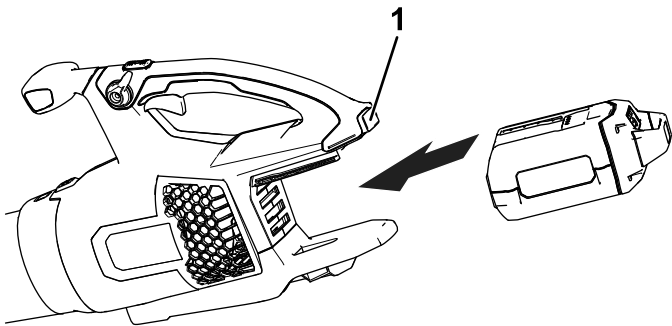

Figure 3
2. Align the cavity on the battery pack with the tongue in the handle housing (Figure 3).